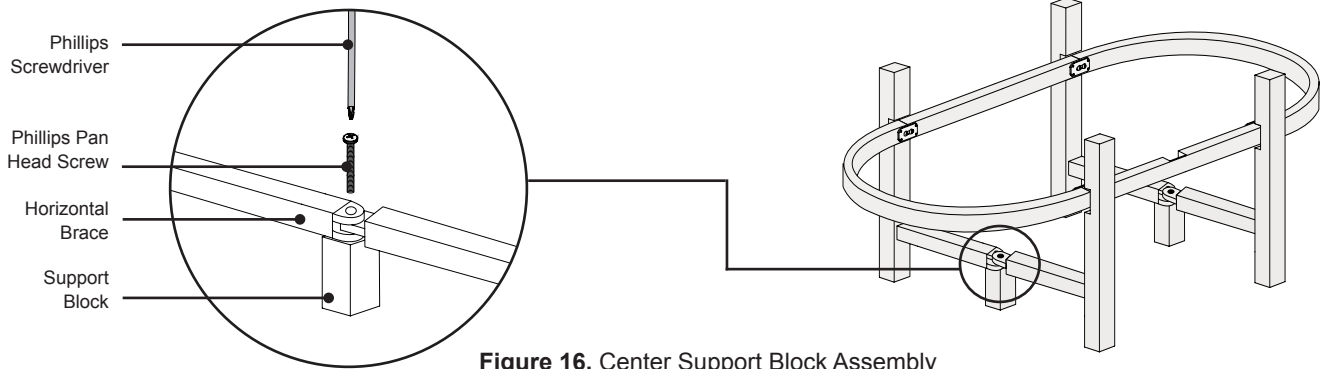

Figure 16. Center Support Block Assembly
- 1 Install center support blocks by placing them under each center horizontal support (Figure 16).